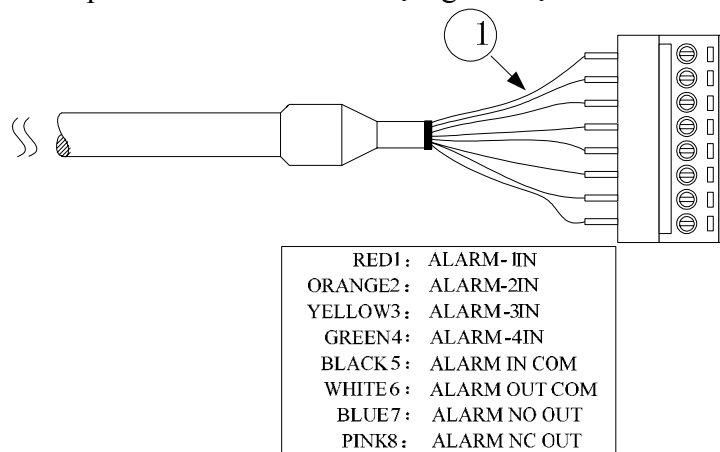

Figure 23
- 2) The description of Alarm out-line ( Figure23 ) .